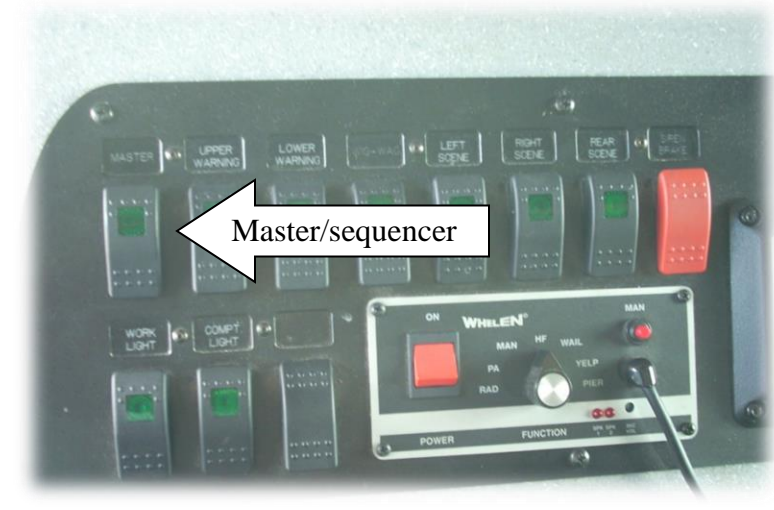

FIG 1
(FIG 1)
The vehicle is equipped with an Allison 6 speed automatic transmission. The transmission selector consists of an electronic control head mounted on the engine cowling by the driver's right arm. (FIG. 1) The control head consists of a display window and a series of touch pad buttons. The **R** button activates the reverse gear. The **N** button places the transmission in neutral. The **D** button places the transmission in the normal drive range. In this range, the transmission will automatically shift up and down through gears 1-5. In this range, a maximum speed of about 52-53 MPH is attainable. The on board fire pump is operated with the transmission in this (**D**) range. The **MODE** button is utilized whenever the vehicle operator wishes to access the 6th gear. This gear functions like an overdrive, and permits the vehicle to operate at speeds up to 69-72 MPH. **The mode button must not be used for pumping applications.** The mode feature can be activated at anytime. The mode feature is deactivated whenever the **MODE** button is depressed for a second time, or after the vehicle is shut off.
The switch consoles located in the driver's position are all rocker switches (FIG 1). To activate or deactivate the desired listed function simply toggle the switch, the green light should illuminate when in the on position. These panels control various emergency lighting as well as scene lighting.
- All the emergency warning lights are controlled via an emergency/master sequencer (FIG 1). It takes several seconds for all the lights to activate. Similarly, it takes several seconds for the lights to sequence down. **Do not shut the vehicle off until all the lights have sequenced off.** Doing otherwise can damage the circuitry.
Unit #304's cab tilt cord/controller is kept @ city garage. In the event that the cab needs to be tilted the unit will be taken to the garage. The plug for the tilt controller is in the front compartment on the officers side (FIG 1). Unit #304 is also equipped with a manual cab tilt (FIG 2). The lever extension is located under the officer seat compartment. The actual manual pump is between the cab and the front compartment on the D/O side of the apparatus.
- Open the eductor as described on the previous page (fig 1)
Above and to the left of the 6” rear pump intake is a 2.5” black knob. This knob is the EMERGENCY MANUAL OVERRIDE in case of an electrical switch failure. To operate the override, just turn the knob right to close and left to open (FIG 1).